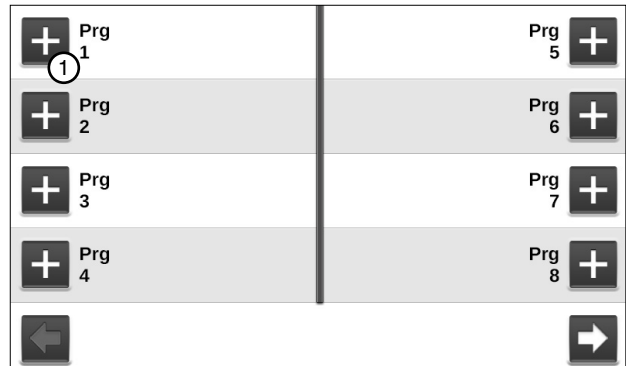

Figure 119-1 Step Programs Screen
2. Push the **New Program** button corresponding to the preferred program number as shown in Figure 119-1.